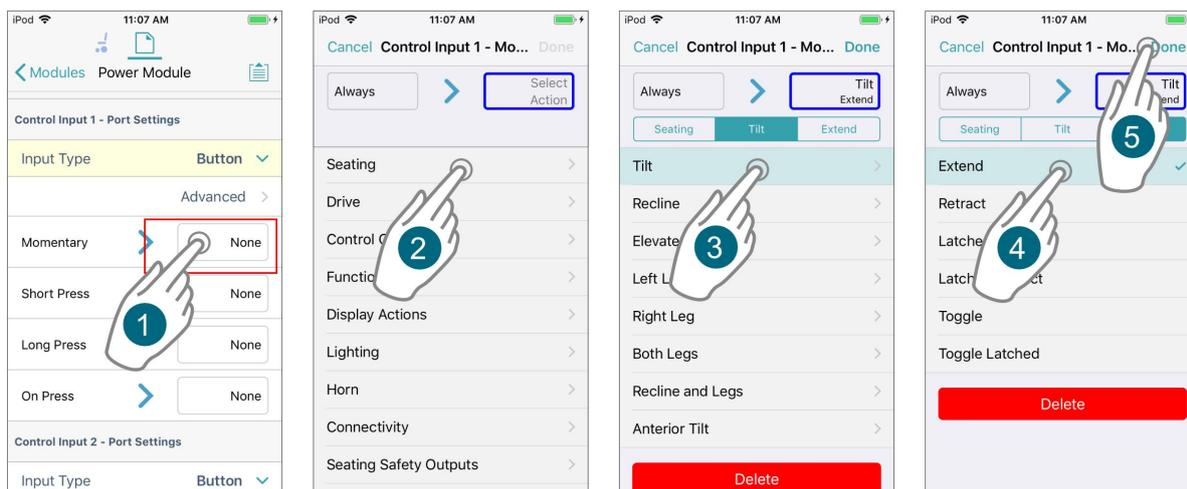

Figure 84: Assigning an output where no rules exist for slot
1. Open the output list by tapping on the right-hand side of the control IO slot (Figure 84 ①).
2. From the output list, select an output, drilling down through the options as they are presented (Figure 84 ②).
3. Tap on **Done** (Figure 84 ③). A summary of the rule is displayed in the control IO slot.